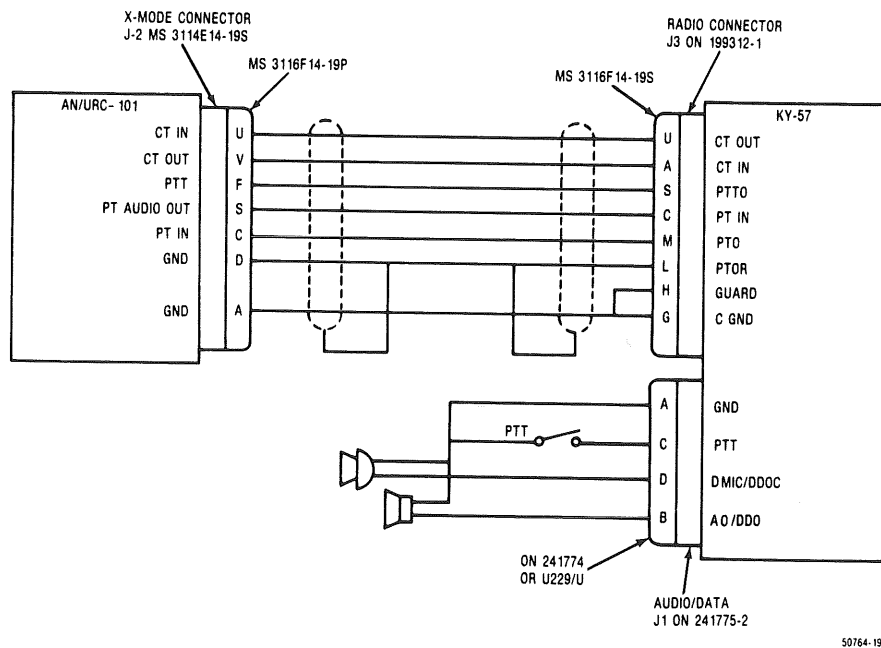

Figure 2-3. KY-57 Interconnect
- a. Connect the KY-57 and the PET as shown in Figure 2-3.
- b. For Plain Text (PT) operation perform the following steps.
- (1) Switch the KY-57 "MODE" to "PT"
- (2) Switch the PET SPKR/MODE to either PT ON or PT OFF.
- (3) Squelch and volume are adjusted on PET transceiver
- c. For Cipher Text (CT) operation perform the following steps.